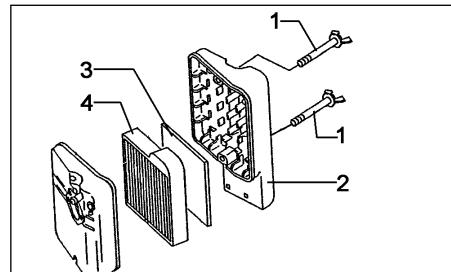

Fig. 26
- Remove foam-type filter and paper filter (Fig. 26/3 and 4) and proceed to dry cleaning or replace if required.